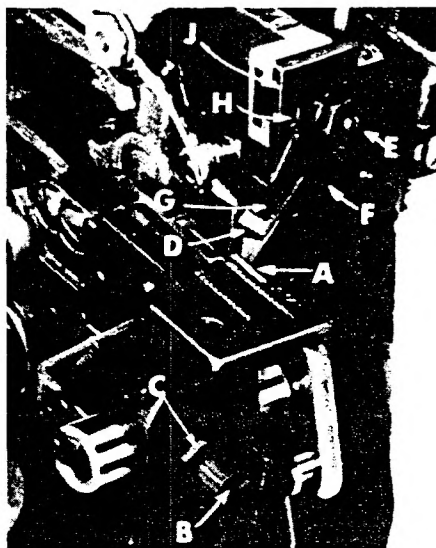

Fig. 13
Replace lower knife holder assembly. Lower knife (A, Fig. 13) should be set with cutting edge flush with throat plate surface. Adjustments are made with hexagonal head screw which holds lower knife. Lower knife is spring pressed against upper knife, so no lateral adjustment is necessary when width of trim is changed.
Replace upper knife assembly. Clamp upper knife (D, Fig. 13) in position, setting nut (E) to hold clamp (F) in its most clockwise position against upper knife. At bottom of its stroke, front cutting edge of upper knife should extend not less than 1/64 inch below cutting edge of lower knife. The chain guard (G) should be set down against the upper knife and slightly back from the cutting edge.